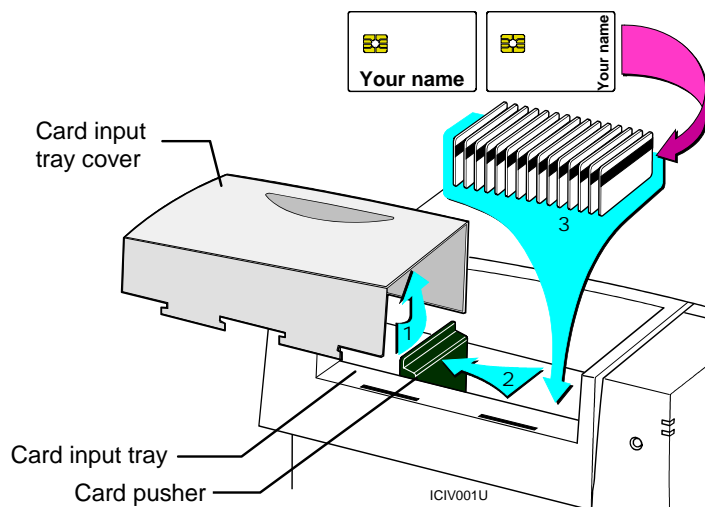

Figure 3-7: Load cards in the ImageCard IV printer
- 2 Lift the input tray cover and set aside (step 1 in Figure 3-7).
- 3 Hold the card tray and slide the card pusher to the left (step 2 in Figure 3-7). Latch the card pusher in the notch on the bottom of the card tray.
- 6 Place up to 250 cards in the space created by moving the card pusher back (step 3 in Figure 3-7).